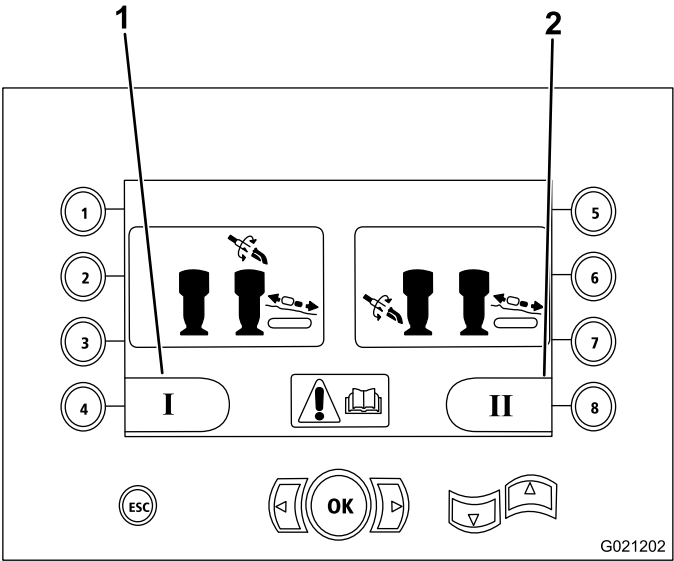

Figure 13
- Mode I—Places the drilling functions on right joystick, while the left joystick operates the pipe loader and the wrench functions (Figure 13)
Press button number 4 to select this function (Figure 13).
- Mode II—This function splits the drilling, wrench, and pipe loading between the left and right joysticks (Figure 13)
Press button number 8 to select this function (Figure 13).